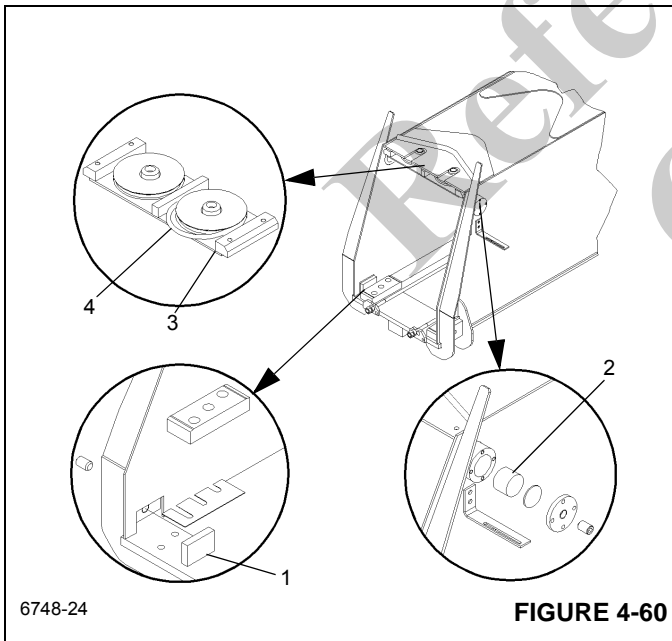

FIGURE 4-60
1. Insert the adjustable brass wear pads (Figure 4-60, 1) and the upper wear pads (Figure 4-60, 2). Do not install the bottom wear pads at this time.
3. Assemble the mid syncro cable sheave assembly (Figure 4-60, 3) and lay on top of the Outer Mid section about where it will go.
- a. Reeve the mid syncro cables (Figure 4-60, 4) around the sheaves.